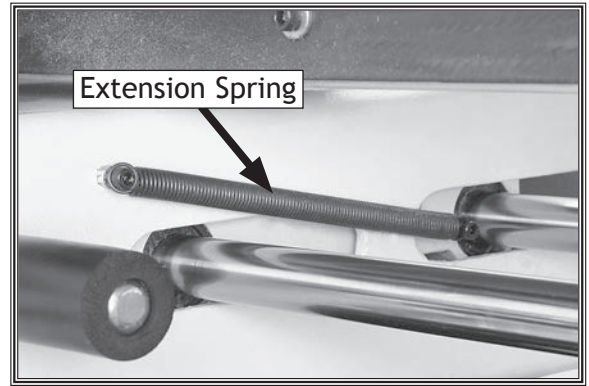

Figure 22. Extension spring (located on the right side of the headstock).
1. Remove the extension spring shown in **Figure 22**, and pull the headstock backward (toward you) to clear the tracer pin of the template.